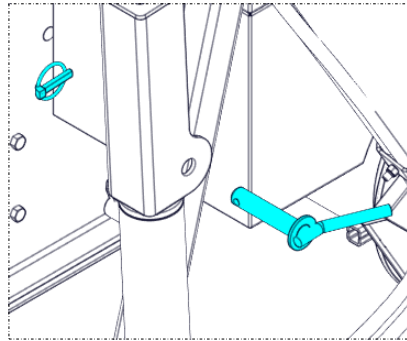

Figure 4.13
- 3) Remove the lynch pin and transport lock pin from the cylinder transport lock (Figure 4.13).